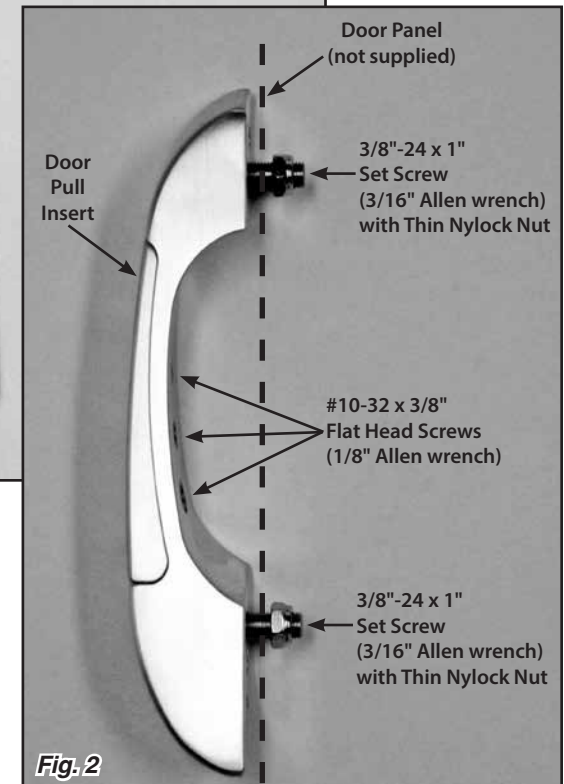

Fig. 2
Step 5: Install the 3/8"-24 x 1" set screws into the appropriate threaded holes in the Door Pulls. Tighten each one using a 3/16" Allen wrench. Fig. 2
Install the door panel onto the door. Fig. 2